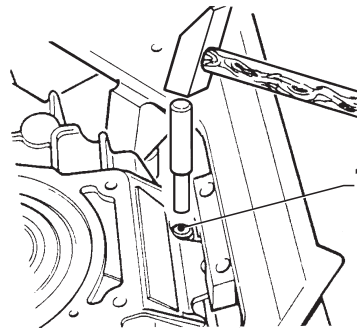

FIG. 6-1a
Using an adequate drift punch, top the locating pins (item 1, Fig. 6-1a and 6-1b) out of the housing.